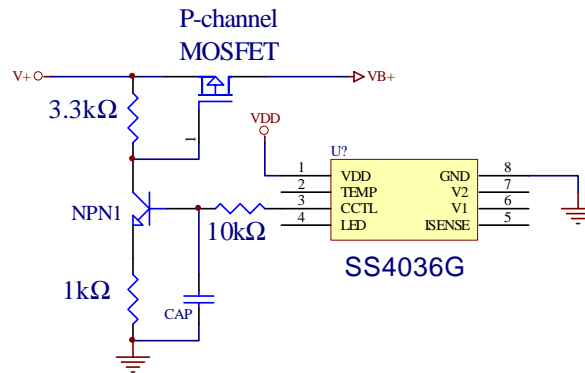

Figure 4. Charging Control
Figure 4 shows the linear charger circuit using the SS4036G. The output of pin CCTL (3) is a pulse-width-modulated (PWM) signal. This signal is translated to a DC voltage to control the P-channel